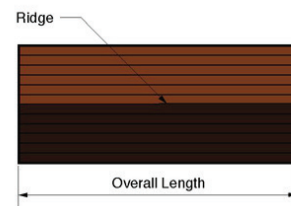

Fig 5.1.2
- (b) Determine the overall length of the roof (Fig 5.1.2) and refer to Table 5.1 for the number of tiles required. Ensure that fractional tiles are counted as whole tiles.